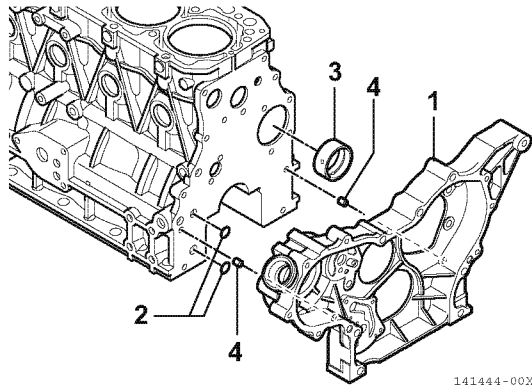

Figure 6-59
6. 3TNV88C - 4TNV86CHT, 3TN86CHT, 4TN86CHT, 4TN86DHT: Remove two O-rings (2, Figure 6-59) and two dowels (4, Figure 6-59).